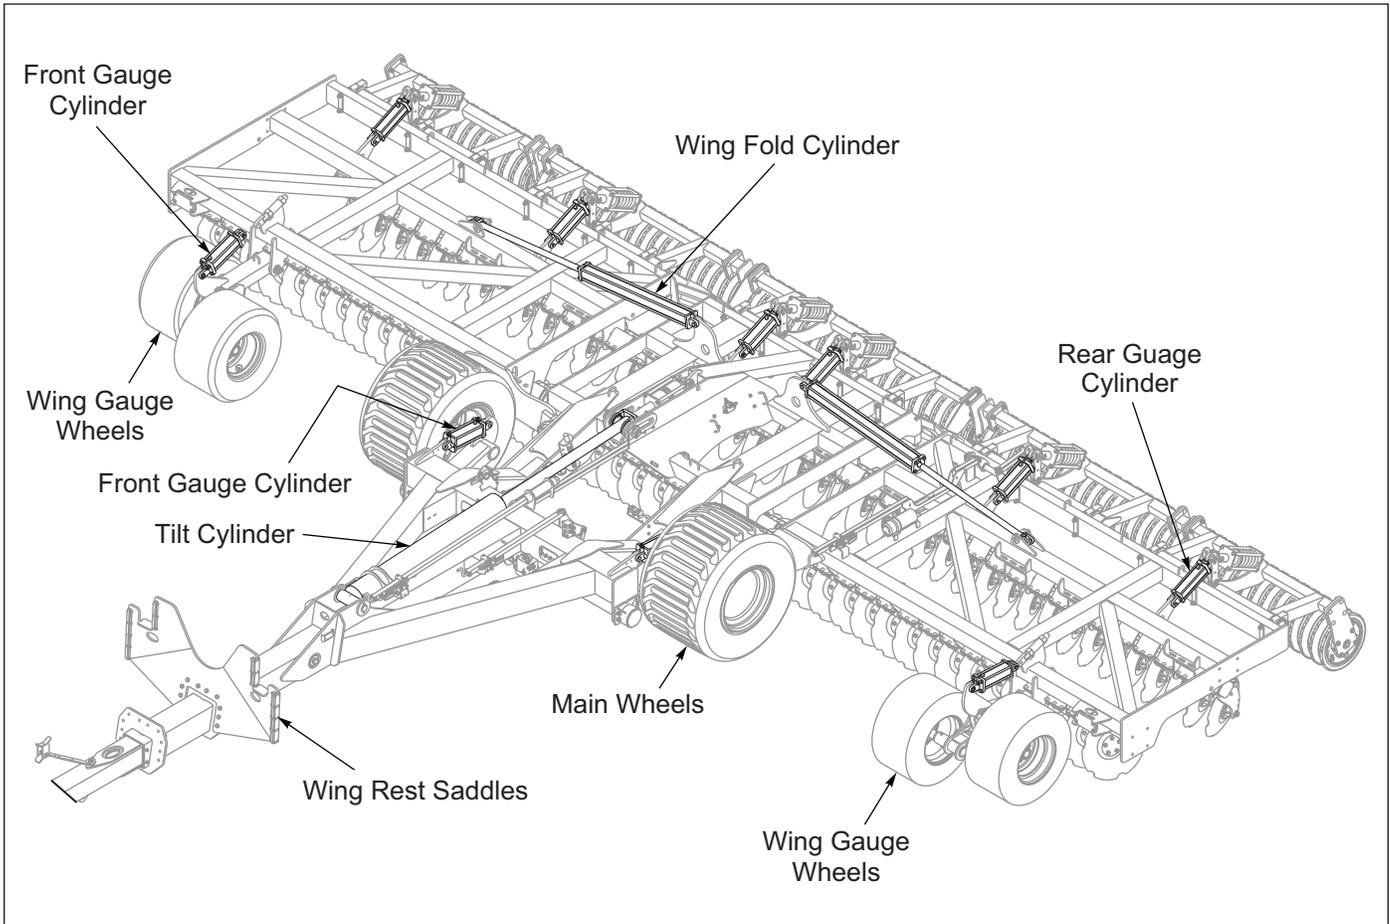
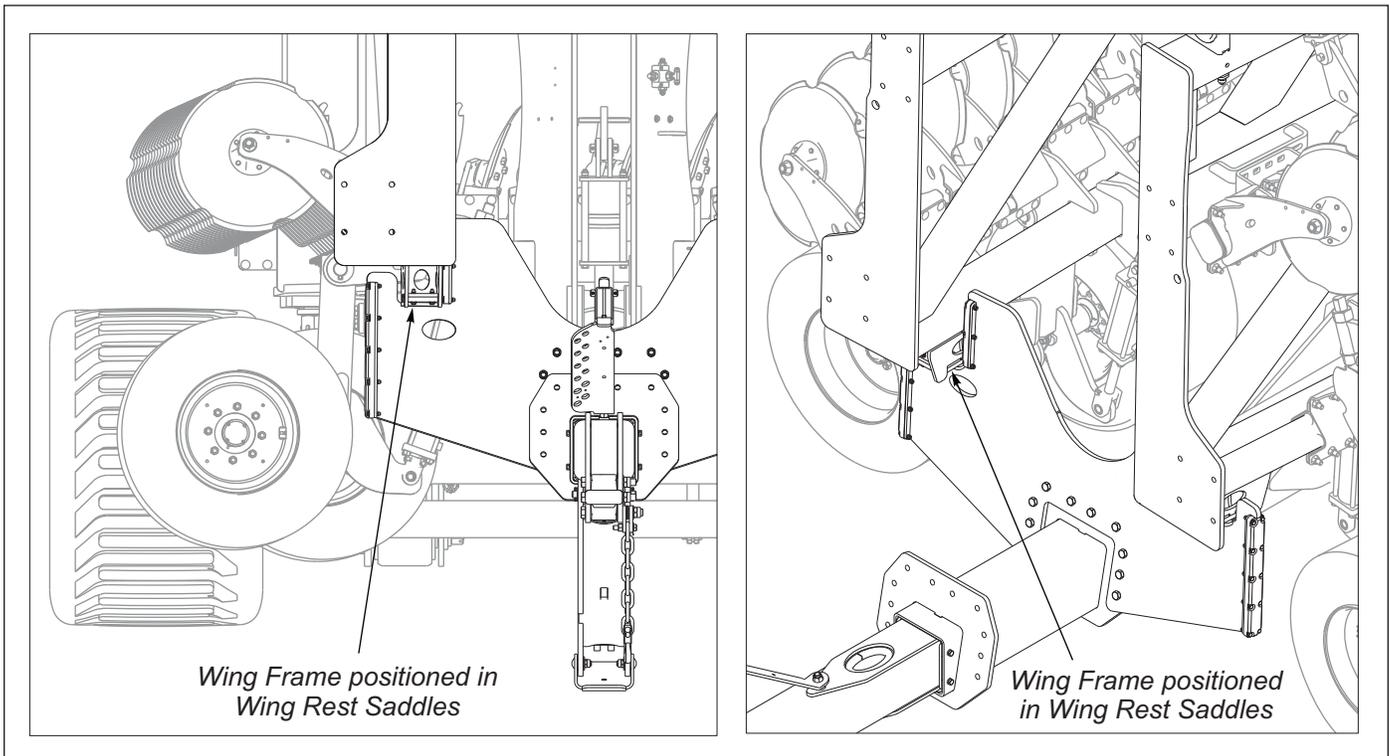

Figure 4-2: Hydraulic Cylinder Locations
Figure 4-3: Wing Frame positioned in Wing Rest Saddles
1. Tip the top of the center section rearward far enough to lift the wing frames several inches above the Wing Rest Saddles located on the Hitch. *See Figure 4-3.* The center section is tilted rearward by extending the large Tilt Cylinder located over the Hitch. (*Red Hose Wrap Circuit*) *See Figure 4-2.*
1. Tip the top of the center section rearward far enough to lift the wing frames several inches above the Wing Rest Saddles located on the Hitch. *See Figure 4-3.* The center section is tilted rearward by extending the large Tilt Cylinder located over the Hitch. *(Red Hose Wrap Circuit) See Figure 4-2.*
1. Tilt the center section and wing assemblies by raising the rear of the HSL upward until it is completely upright. The center section is tilted upright by retracting the large Tilt Cylinder located over the Hitch. *(Red Hose Wrap Circuit) See Figure 4-2.*
2. Fold the wing assemblies forward by retracting the Wing Fold Cylinders. Keep the Wing Gauge Wheels in the proximity of the ground for safety. Fold the wing assemblies forward until they are approximately one foot away from the Wing Rest Saddles. *(Yellow Hose Wrap Circuit) See Figure 4-3.*